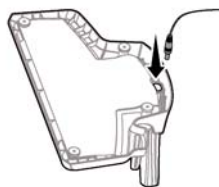

Fig.5
- Insert the charging adapter plug into the charging port on the bottom of the charger base and secure the cord (Fig.5).